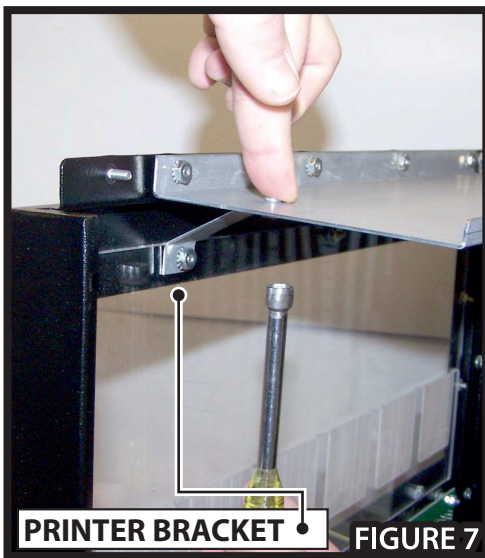

FIGURE 7
17. Position Printer Shelf Brackets under printer shelf. Align screw holes of Brackets with screw holes in shelf and secure with 6-32 x 1/4" screw and 6-32 nut. Do not tighten until both Brackets are secured to Printer Shelf. Once both Brackets are in place, tighten both nut/screw with 5/16" nut driver. **Figure 7.**